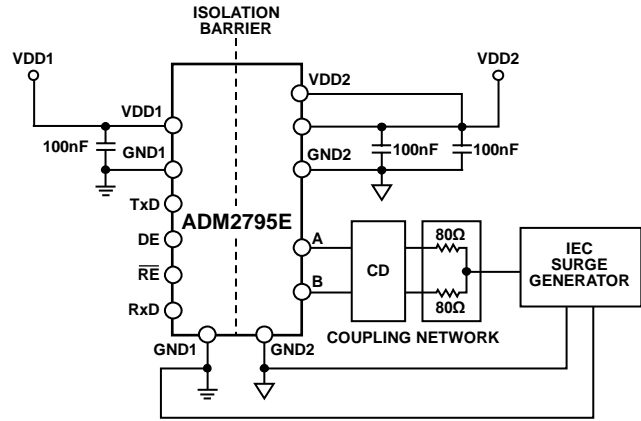

Figure 5. IEC 61000-4-5 Surge Testing to GND1 or GND2
IEC 61000-4-5 surge testing involved using a coupling network to couple the surge transient into the RS-485 A, B bus pins. The coupling network for a half duplex RS-485 device consists of an 80 Ω resistor on both the A and B lines and a coupling device. The total parallel sum of the resistance is 40 Ω. The coupling device (CD) can be capacitors, gas arrestors, clamping devices, or any method that allows the EUT to function correctly during the applied test. During the surge test, five positive and five negative pulses were applied to the data ports with a maximum time interval of one minute between each pulse. Testing was performed in normal transceiver operation with the ADM2795E clocking data at 2.5 Mbps. Figure 5 shows the test setup for surge testing. The ADM2795E data sheet provides additional information on the IEC 61000-4-5 surge, including test waveforms.